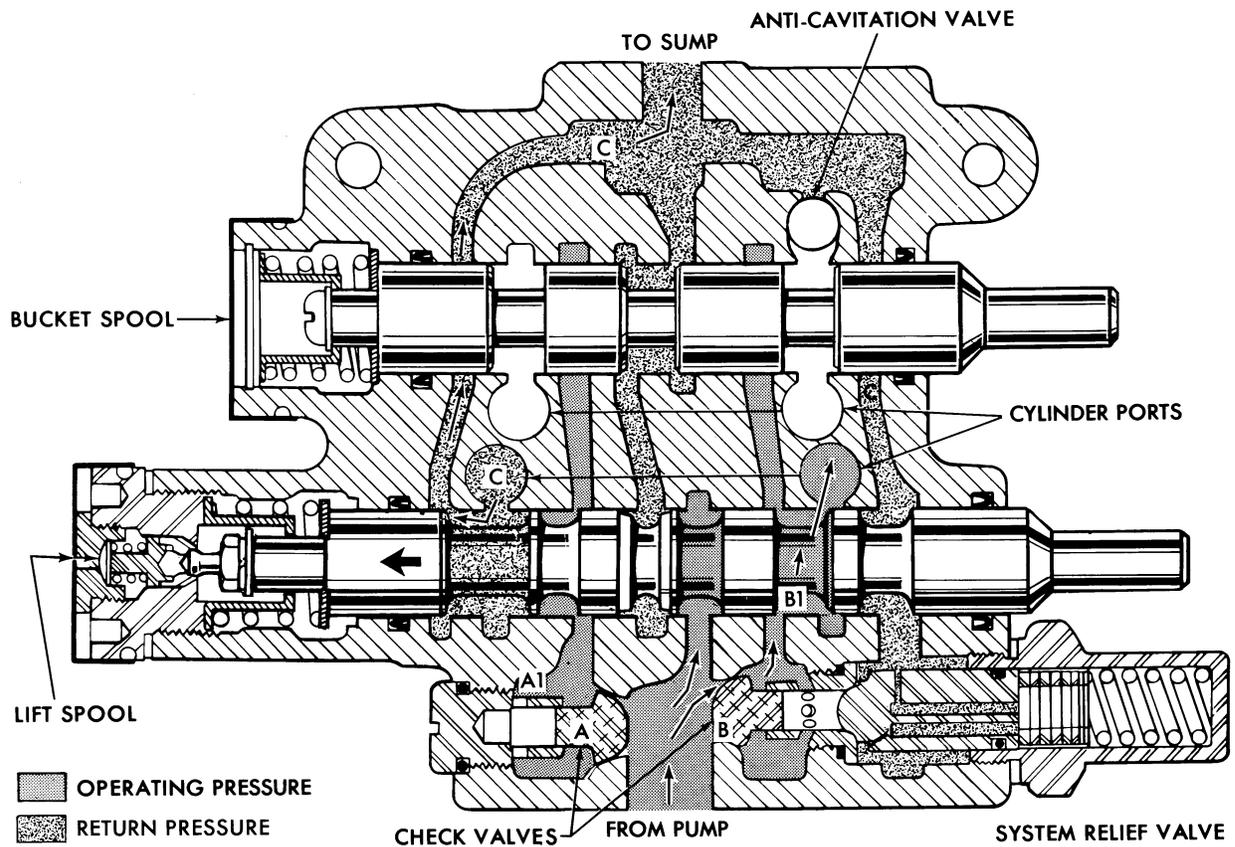

Figure 14
Figure 14 illustrates oil flow through the control valve with the lift spool moved to direct oil to the rod end of the lift cylinder. Oil entering the valve at the inlet port is blocked by the positioning of the spool land, causing a pressure increase. As pressure builds, check valves (A) and (B) unseat to allow pressured oil to enter passages (a₁) and (b₁). Oil travels past the spool land in passage (b₁) and to the cylinder hose port. Return oil from the cylinder is dumped into the low pressure passages (C) and flows to the loader reservoir.